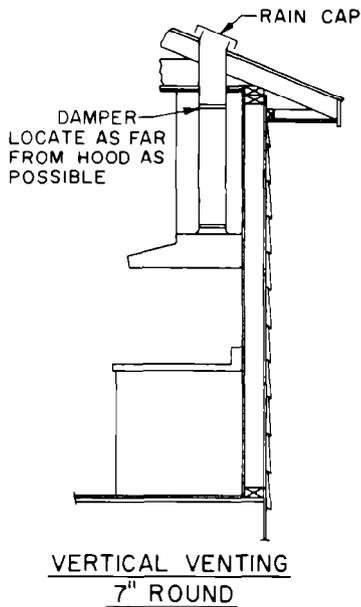

FIG. 4
1. For vented applications, see Figures 4, 5, and 6. Typical vented installations are shown for the 7" Round Vertical, 3 1/4 x 10 Vertical, and the 3 1/4 x 10 Horizontal Discharge respectively. Choose the best method for your installation.
8. Remove proper venting knockout. If 7" (17.8 cm) round vertical venting, entire top knockout including rectangular portion must be removed. The best performance from your hood, with most air taken from the kitchen and when the hood is most quiet, comes when you top vent with 7" round duct pipe as shown in Figure 4.